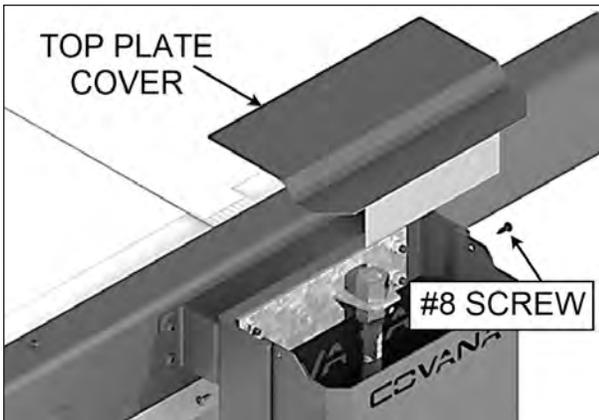

FIGURE 103: TOP PLATE INSTALLATION
31. Attach the top cover for all four posts. Use the provided Robertson #8 self-drilling screws x 1/2" (2 screws per post) see Figure 103.